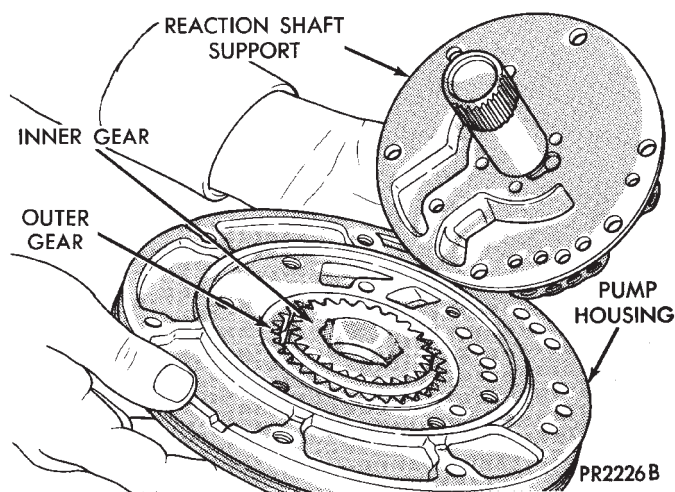

Fig. 2 Reaction Shaft Support
(2) To install a new seal, place seal in opening of the pump housing (lip side facing inward). Using Tool C-4193 and Handle Tool C-4, drive new seal into housing until tool bottoms (Fig. 2).